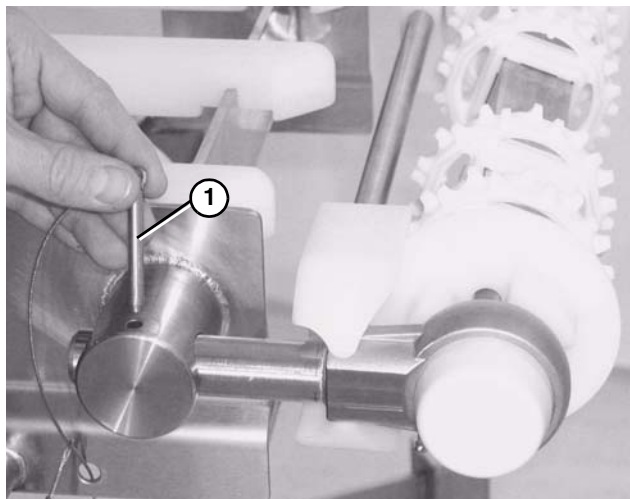

Figure 16
3. Insert the pull pins (**Figure 16, item 1**).